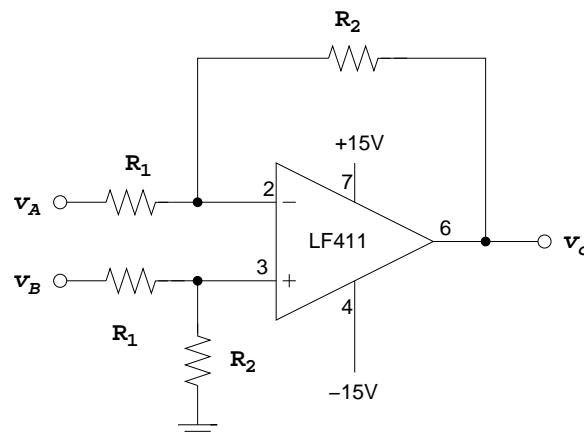

Figure 1.
1. Construct the following differential amplifier (Figure 1) with R_1 between 4 and 6 k Ω and the difference of v_A and v_B amplified by about 30. Build it in the center of your protoboard to leave plenty of room for later additions.
1. Consider the difference amplifier shown in Figure 1 of the lab and Section 2.4.1 of Sedra and Smith. Design the amplifier with a differential gain of about 30 with R_1 between 4 and 6 k Ω .